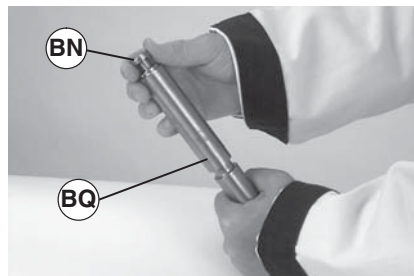

**Figure 36**
2. Using a puller (Figure 36, item BR), remove and discard bearing.